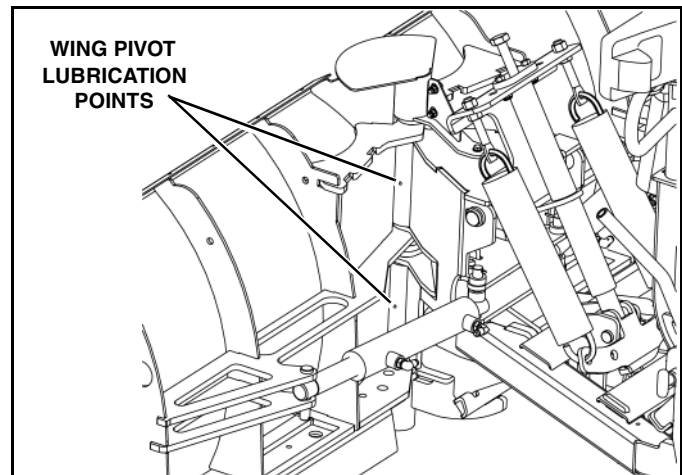

Figure 1-44
4. Apply oil or grease to the wing pivot pin through two lubrication holes provided in the pin housing. (See Figure 1-44).